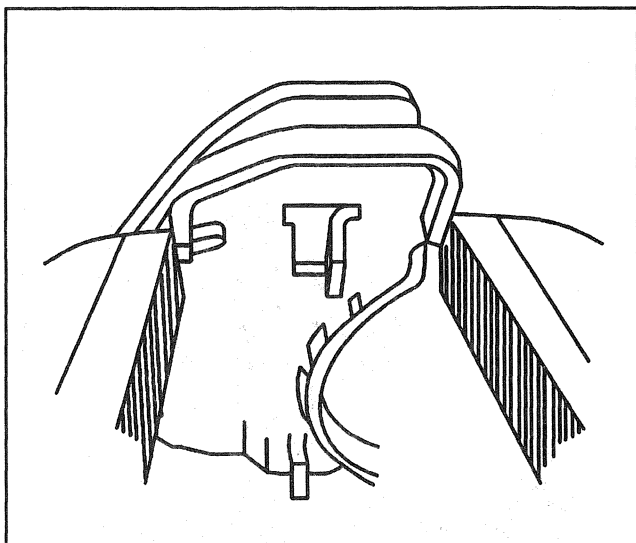

Figure 21—Crimping Outer Brake Pad
2. Place new pad in a vise (Figure 21).